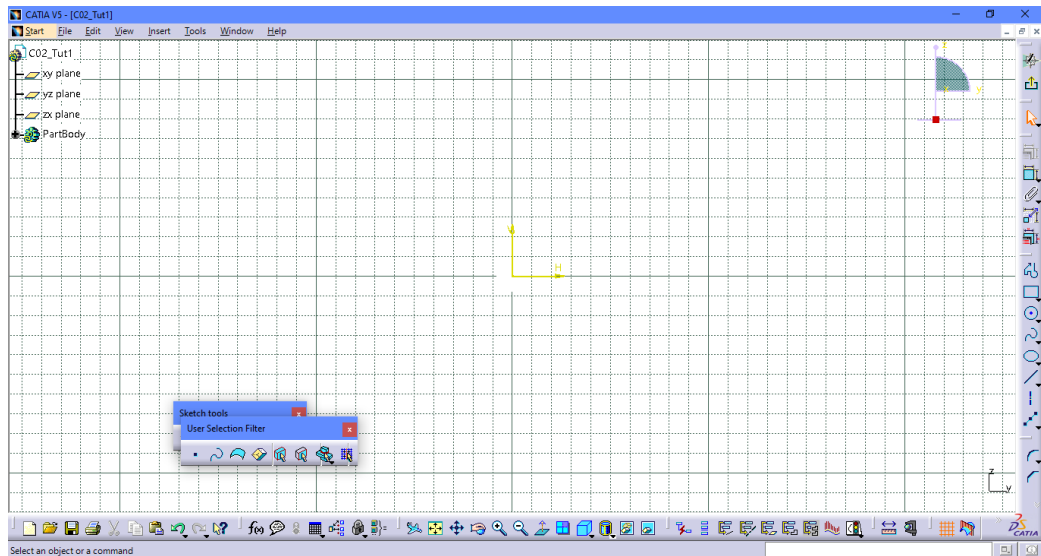

Figure 2-44 The **Sketcher** workbench screen
- Choose the **Sketch** tool from the **Sketcher** toolbar and then select the yz plane from the Specification tree as the sketching plane; the **Sketcher** workbench screen is displayed, as shown in Figure 2-44.